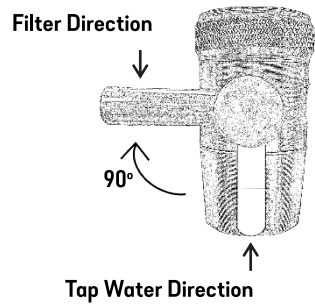

Fig.2
2. Rotate the 2-Way Switch turning toward the Filter Direction 90°. (Fig. 2)